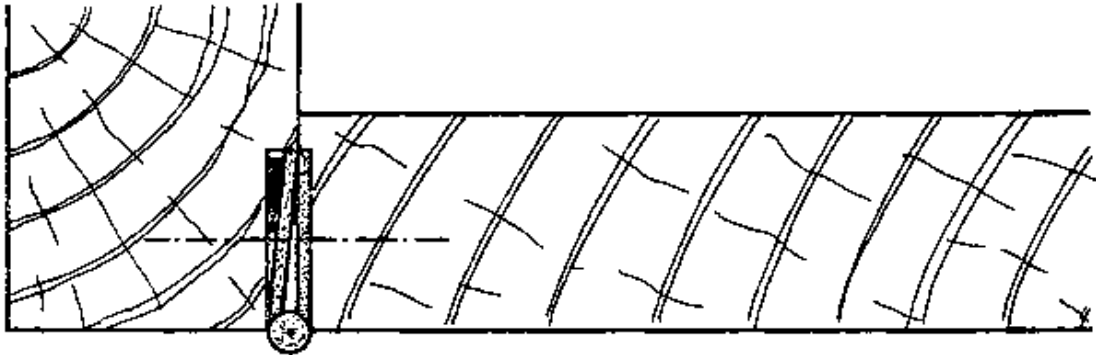

Fig. 2
- When a door binds on the locking post, insert the wood strip at the back of the hinge, to force the door away from the lock post (Fig. 2).